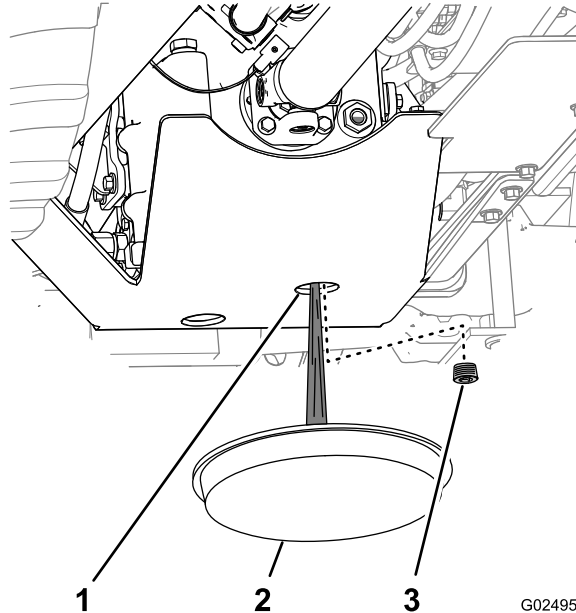

Figure 2
2. Place a drain pan under the forward hole in the transmission shield (Figure 2).
3. Through the transmission shield, clean the area around the transmission drain plug (Figure 2).